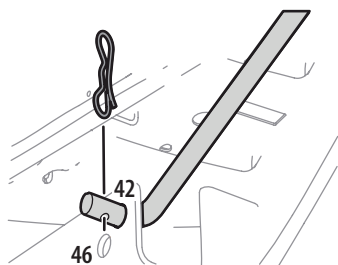

Figure 23
- Pull the bow-tie pin out of the front deck lift rod securing it to the deck (Figure 23). Slide the deck lift rod out of the front hanger bracket.